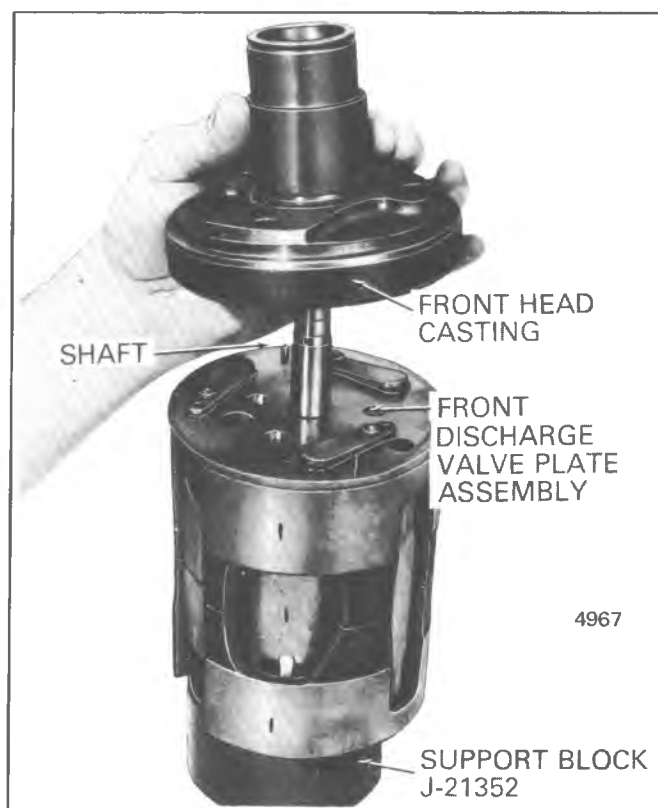

Fig. 1D-66 Installing A-6 Front Head Casting
8. Generously lubricate new O-ring and angled groove at lower edge of front head casting with 525 viscosity refrigerant oil and install new O-ring into groove (Fig. 1D-67).